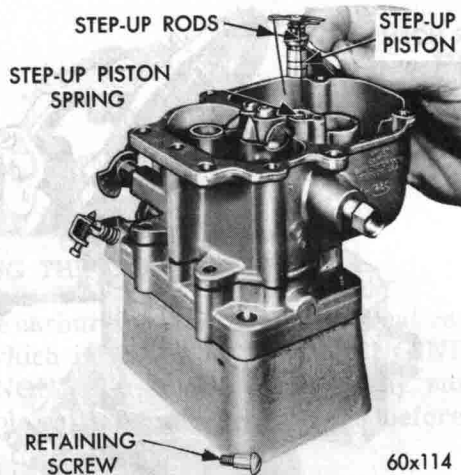

Fig. 7—Removing or Installing Step-up Piston
(8) Remove the step-up piston retaining screw, and slide step-up piston and rods out of well, as shown in Figure 7. Now, lift out the step-up piston spring. Remove the step-up piston gasket from the bottom of the well.
(Refer to Figure 7). Install retaining screw and tighten securely.